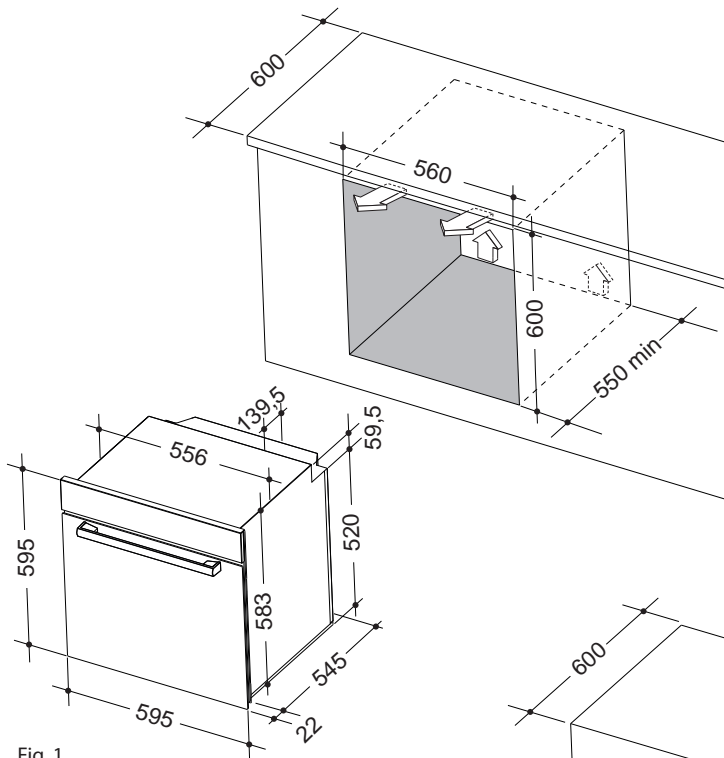

Fig. 1
- Installation requires a compartment as illustrated in figures 1 and 2.